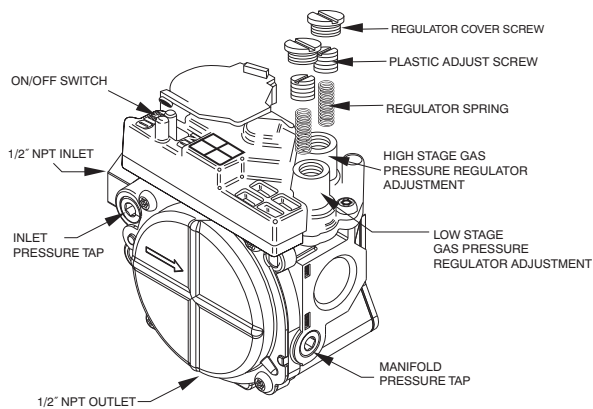

Fig. 15 - Two-Stage Gas Valve
1. Remove regulator cover screw(s) over plastic adjustment screw(s) on gas valve (Fig. 15).
2. Turn the high stage plastic adjustment screw clockwise to increase gas input and counterclockwise to decrease input (see Fig. 15). Manifold pressure must be between 3.2 and 3.8 IN. W.C. for high stage.
3. Replace high stage regulator cover screw on gas valve (see Fig. 15).
4. Turn the low stage plastic adjustment screw clockwise to increase gas input and counterclockwise to decrease input (see Fig. 15). Low stage manifold pressure must be between 1.4 and 2.0 IN. W.C.
5. Replace low stage regulator cover screw(s) on gas valve (see Fig. 15).